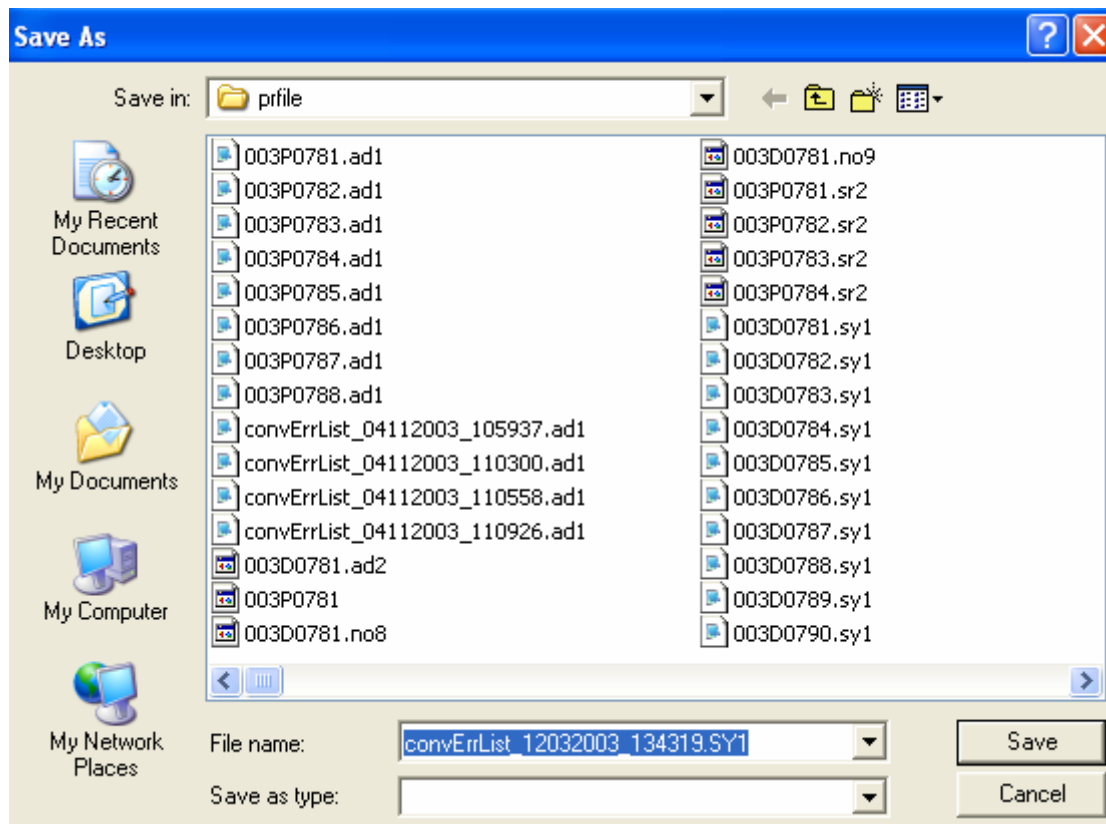

Figure 29: Save Error File as Dialog Box
1. User can change the location at which the error file is to be saved by clicking the “Browse” button. The user will be presented by a dialog box allowing him/her to change the name and location of the error file. This box is shown in Figure 29: Save Error File as Dialog Box.